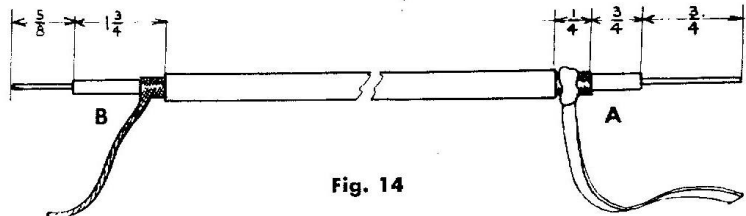

Fig. 14
1. () Fig. 14, end A. Strip one end of the 4 ft. length of black shielded test lead as follows: Remove $1\frac{3}{4}$ " of the black outside insulation. From the same end, remove $1\frac{1}{2}$ " of braid. Next, expose $\frac{3}{4}$ " of inner conductor.
3. () Fig. 14, end B. Strip the opposite end of the shielded test lead as follows: Remove $2\frac{3}{8}$ " of black outside insulation. From the same end, remove $2\frac{1}{8}$ " of braid. Next, expose $\frac{5}{8}$ " of inner conductor.